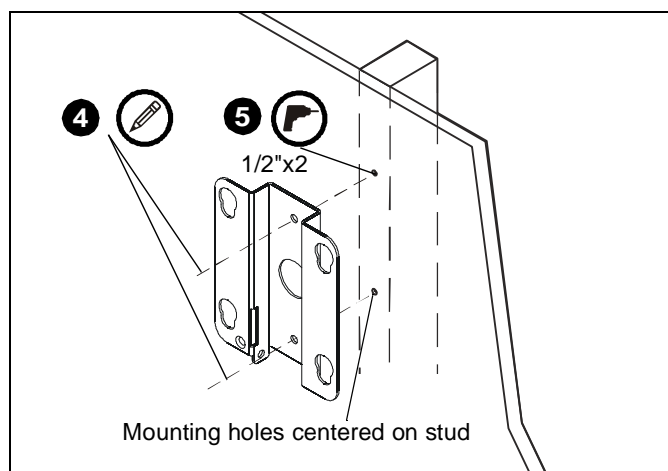

Figure 8
3. Align mounting holes in mount with stud making sure mounting holes are centered on stud. (See Figure 8)
4. Mark location of two mounting holes on wall using the wall plate as a template. Mark holes where the top and bottom holes of the bracket will be connected. (See Figure 8)
5. Drill two 1/2" holes. (See Figure 8)